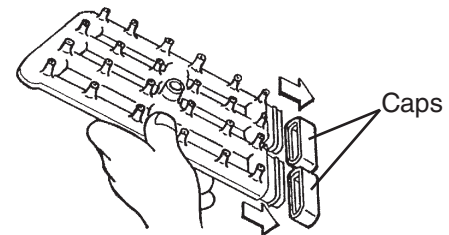

Fig. 40
8) Remove the two caps. See Fig. 40.